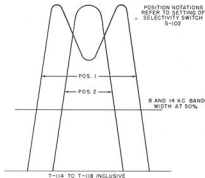

Figure 38. Combined first, second, and third i-f stages, selectivity curves.
e. FIRST I-F AMPLIFIER ALINEMENT. With the signal fed into pin 4 of tube V-105 and all other connections left as described in *c* above, the slugs in transformers T-114 and T-115 are adjusted as described in *c* above. The adjustments made should result in an output on the oscilloscope as shown in figure 38. These curves show the over-all selectivity of the three stages and are the combined curves of the output of the three i-f stages (transformers T-114 through T-118). The curves are double-peaked with the SELECTIVITY switch in position 1 and flat-topped with the switch in position 2. The band width will be somewhat